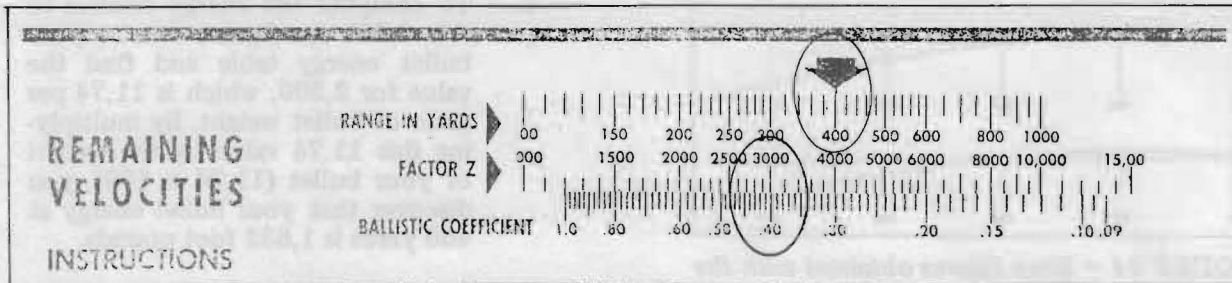

FIGURE 17 — With a range of 400 yards, you will get a "Factor Z" of 3050.
1. Set the range in yards, 400, opposite the top black arrow (middle window). Above the ballistics coefficient number of .390, you see that the “Factor Z” value is about 3050 (see Figure 17). Factor Z represents the “resistance” or “delay” value of a bullet of a given B.C. over a given distance. Jot down “Factor Z, 3050.”